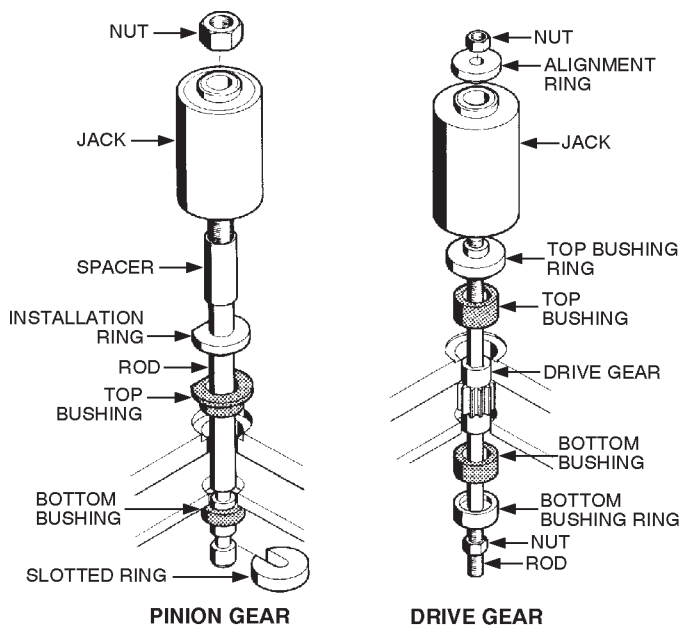

Figure C-8: Bushing Removal
5. Install the bushing removal tool (IMT part number 92091200) as shown in Figure C-8.
3. Install the bushing removal tool as shown in Figure C-8. Apply power to pull the bushing and gear upward.